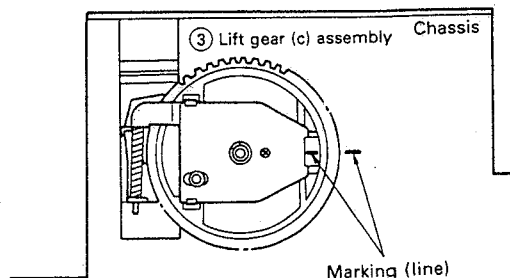

Fig. 21
- 2) Mount the lift gear (C) assembly ③ on the left side facing to the set. Align the markings of the gear and chassis as shown in Fig. 21.